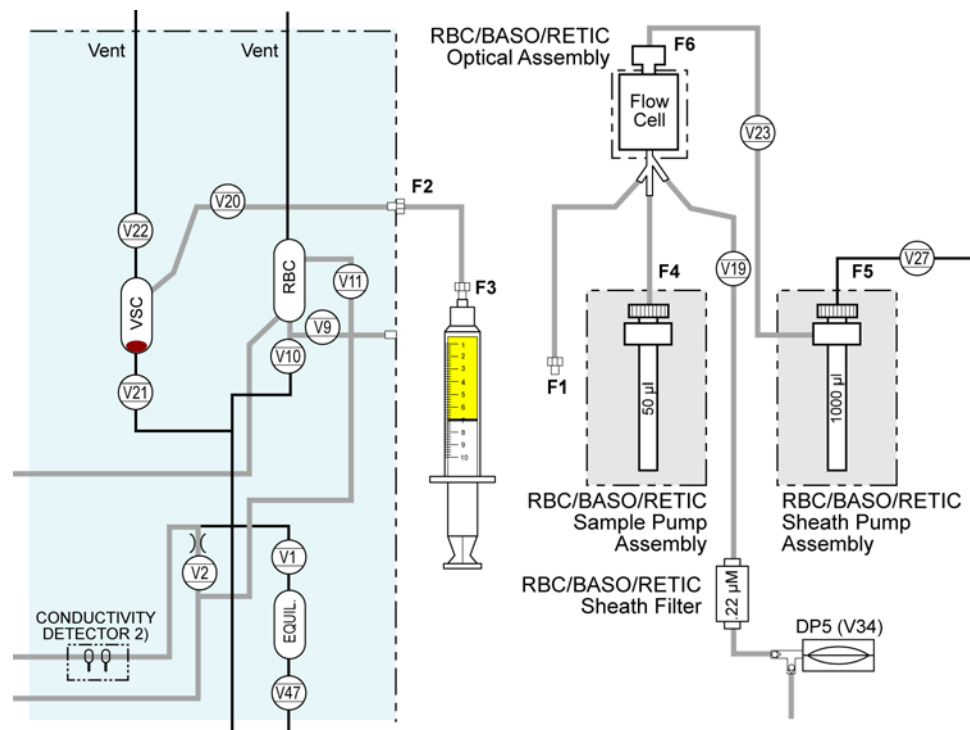

Figure 3. Syringe with 25% bleach solution connected to upper UFC output port
- d. Connect the fitting **F2** to the upper right output port of the UFC. See **Figure 3**.